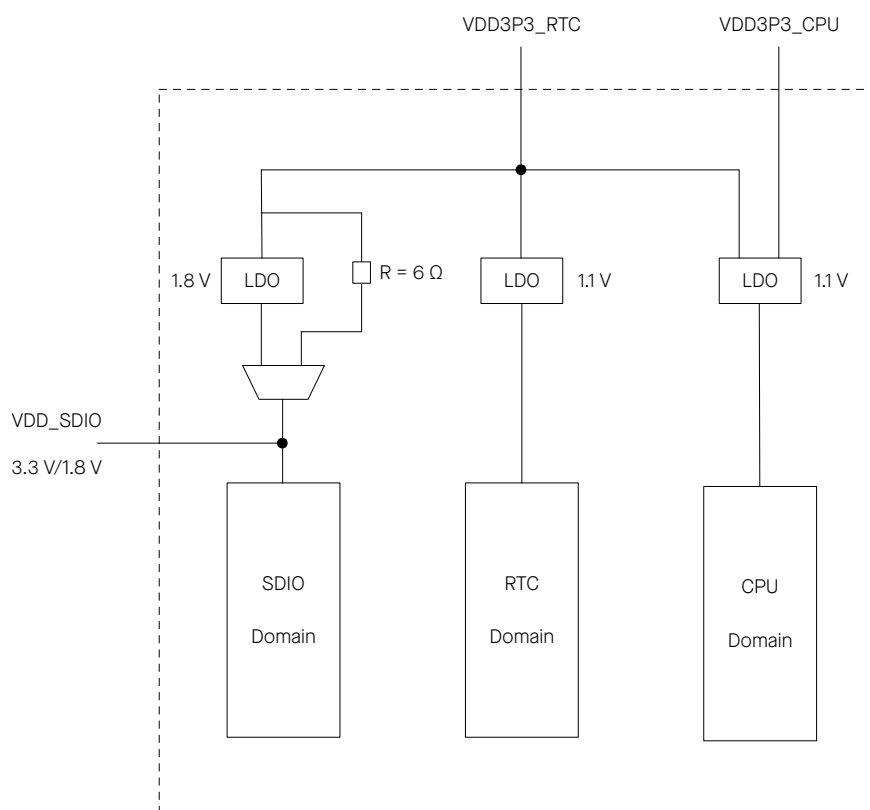

Figure 2-3. ESP32 Power Scheme
The power scheme is shown in Figure 2-3 ESP32 Power Scheme.
1. As the in-package flash (ESP32-U4WDH) and the in-package PSRAM (ESP32-D0WDRH2-V3) operate at 3.3 V, VDD_SDIO must be powered by VDD3P3_RTC via a 6 Ω resistor. See Figure 2-3 ESP32 Power Scheme.